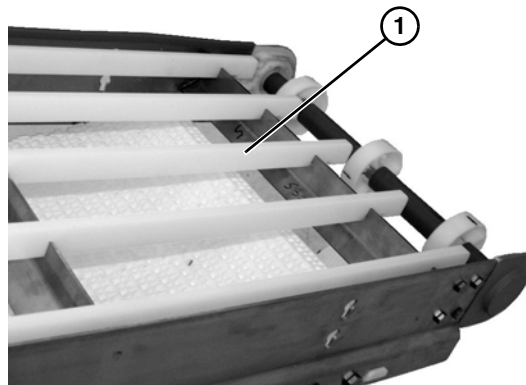

**Figure 37**
1. Remove worn bar cap (**Figure 37, item 1**) by lifting off of conveyor side rail.